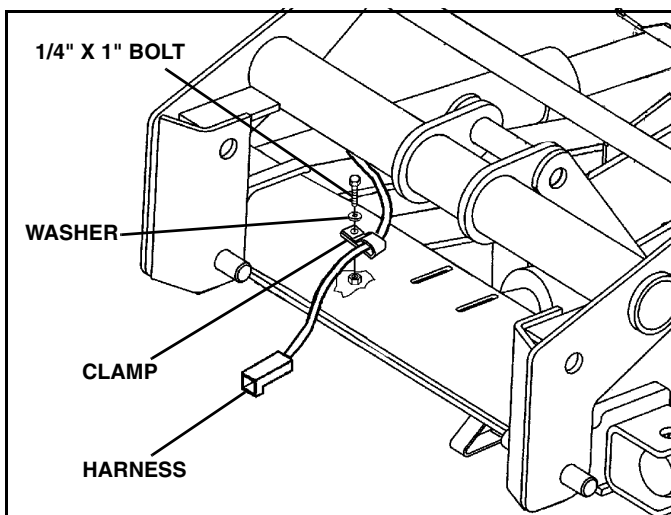

Figure 1-17
32. Run power harness towards back of plow. Secure with clamp and 1/4" x 1" bolt, washer, and lock nut, found in A-frame parts bag, through hole in back of A-frame. (See Figure 1-17).
NOTE: Be sure to install harness clamp as shown in Figure 1-17. Orienting clamp toward outside of A-frame (away from center) will expose power harness to pinch point between cylinder and light bar when plow is raised.